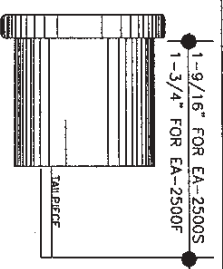

FIG. 8
**Install the internal key control (IKC)** (See page 5 Fig. 8)